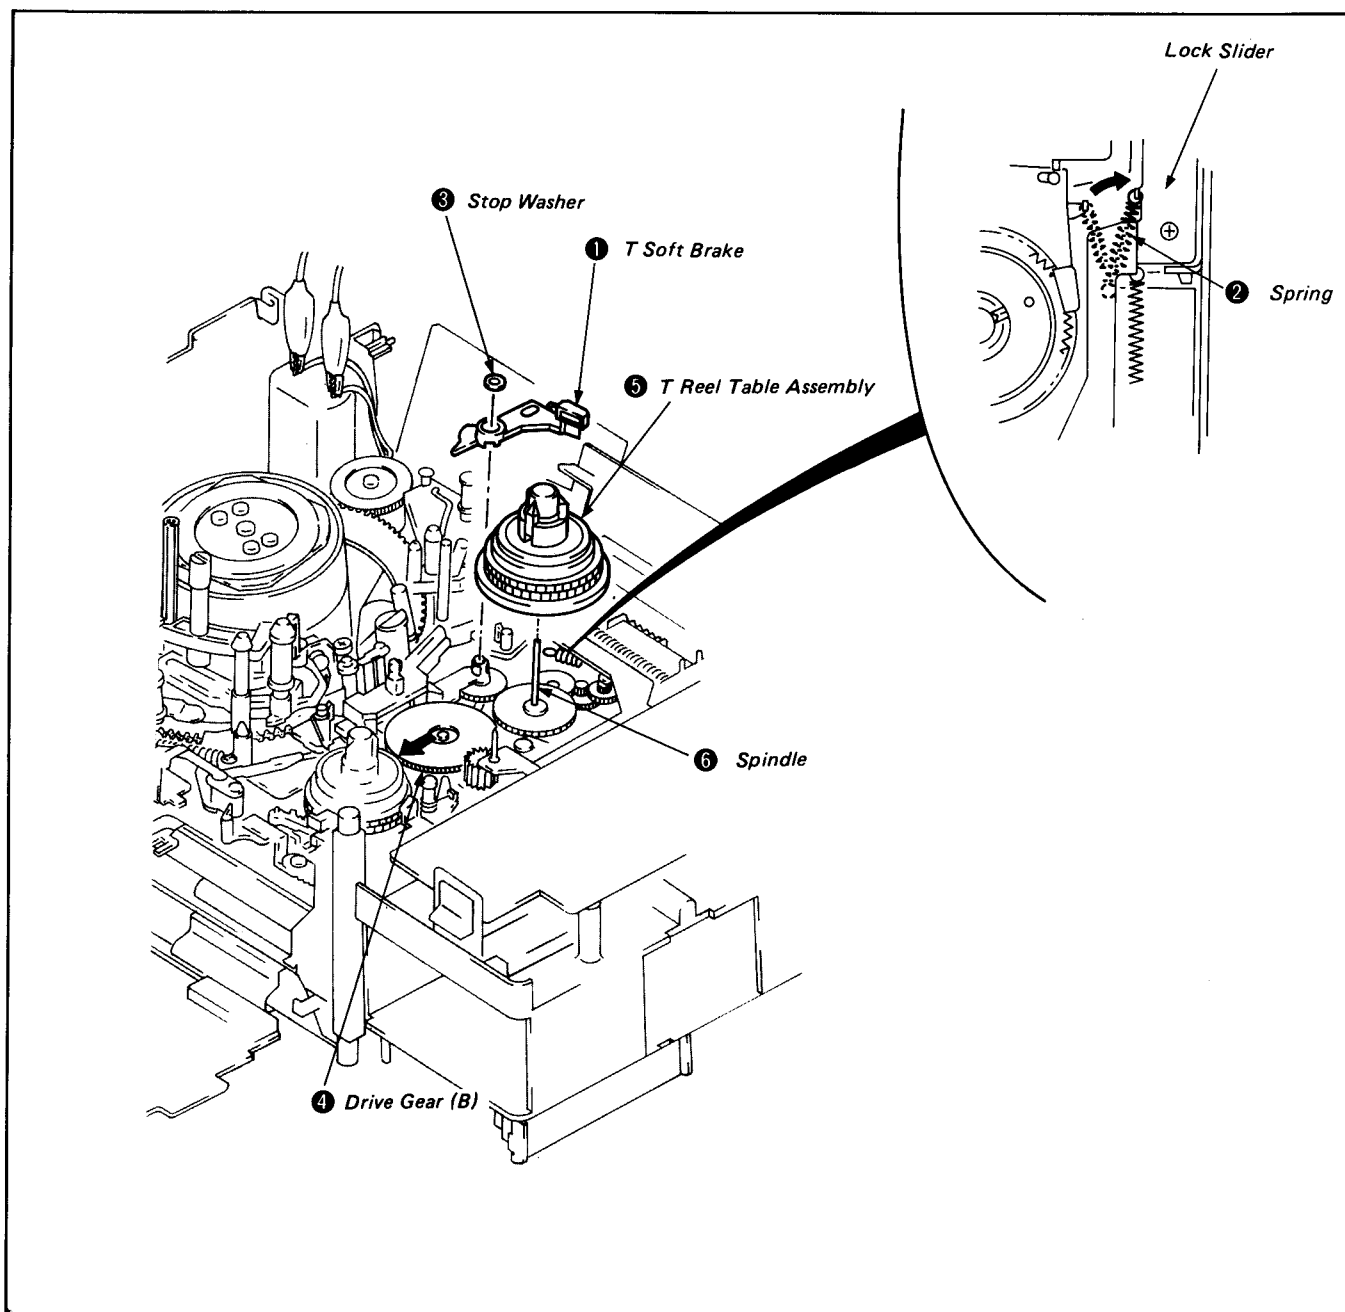

Fig. 8-8.
- 3) Hook the spring ② tying the T soft brake ① on the click of the lock slider.
- 4) Remove the stopper washer ③ and T soft brake ①.
- 6) Move the drive gear (B) ④ toward the arrow.
- 7) Remove the T reel table assembly ⑤. (See Fig. 8-8.)
- 1) Oil half a drop of oil on the upper spherical part of the spindle ⑥.
- 2) Move the drive gear (B) ④ toward the arrow. (Check that the **EJECT** mode is set up.)
- 3) Remount the T reel table assembly ⑤.
- 4) Remount the T soft brake ① and stop washer ③.
- 5) Rehook the spring ② on the click of the T soft brake ①. (See Fig. 8-8.)